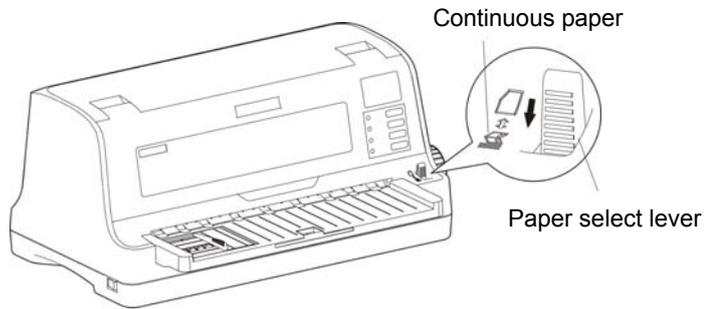

Figure 3-7 Set the paper feed position (continuous paper)
1. Pull the paper select lever to the continuous paper position (as shown in Figure 3-7).
2. Make sure the paper select lever is set as continuous paper printing mode (as shown in Figure 3-7).